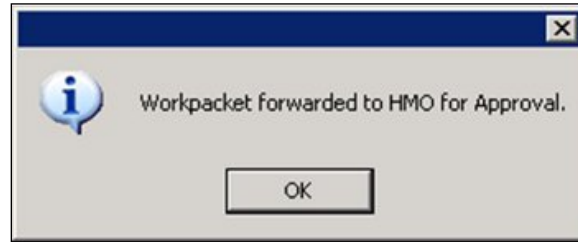

Figure 10-20: Work Packet Forwarded to HMO
27. Click the YES button. The Work Packet Forwarded to HMO message is displayed (Figure 10-20).